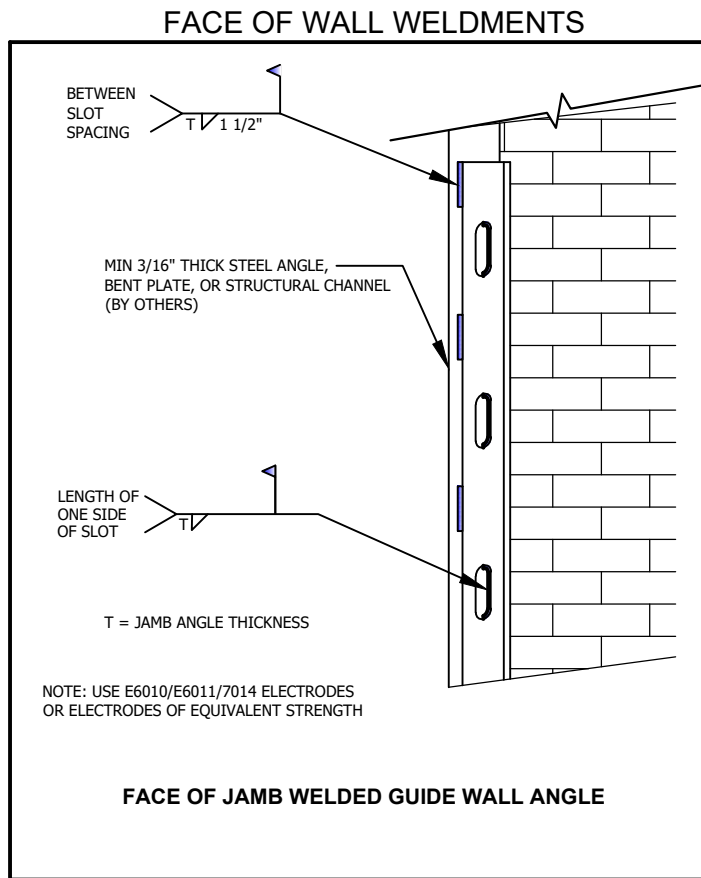

FIGURE 5
- ✓ Create weldments consistent only with the specifications shown in Figures 5 and 6.